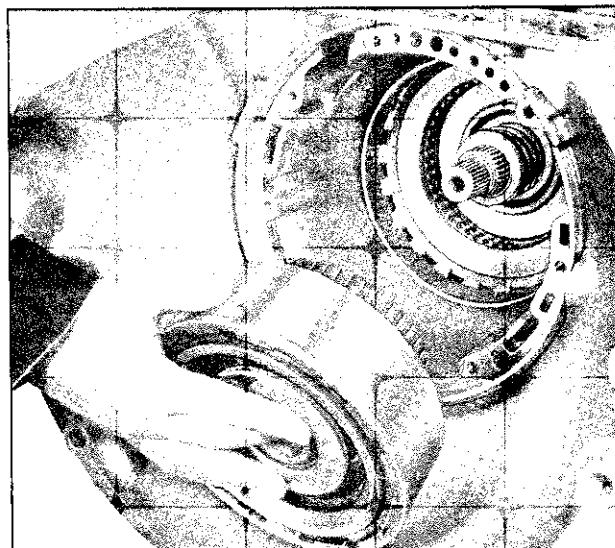

Fig. 7E-151 Installing Direct Clutch
19. Install forward clutch and turbine shaft, indexing direct clutch hub so end of mainshaft will bottom on end of forward clutch hub. When forward clutch is seated, it will be approximately 1 1/4" from pump face in case (Fig. 7E-152).